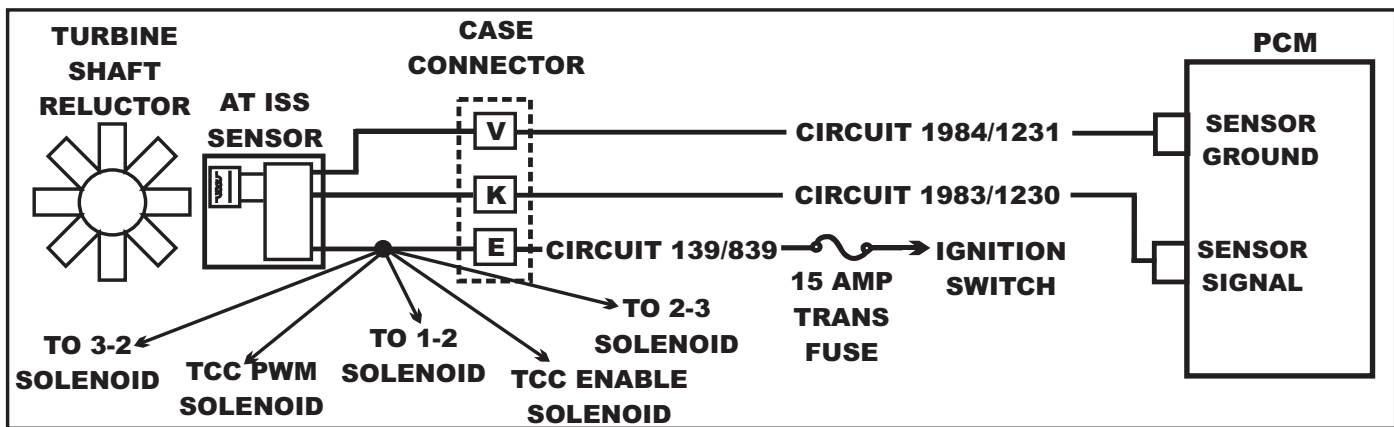

Figure 46
- If there is no input RPM displayed, or it is erratic, begin by verifying the battery voltage supply to case connector terminal “E on Circuit 139/839 as seen in Figure 46. A definitive procedure to do this is to attach a battery fed jumper lead to terminal “E” and see if the code does not return, especially if solenoid codes are stored, (except line pressure control), and if the code stores during cranking of the engine.
- Check Circuit 1984/1231 for ground integrity using the voltage drop method, this is the AT ISS Sensor ground circuit, Refer to Figure 46.